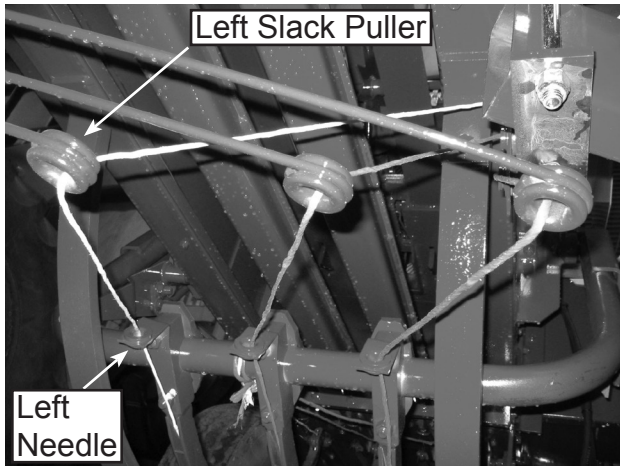

Figure 30 - Slack Pullers to Needles
5. Feed twine through the twine guides on the back of the needles (see Figure 30).